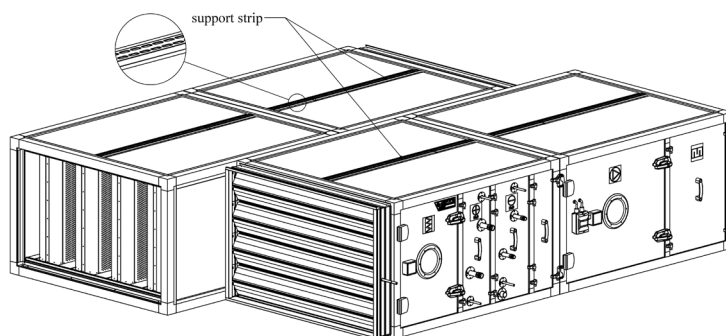

Figure 7.1
1. There are roof support strips (installed at factory) on the top of the outdoor unit, as shown in Figure 7.1.